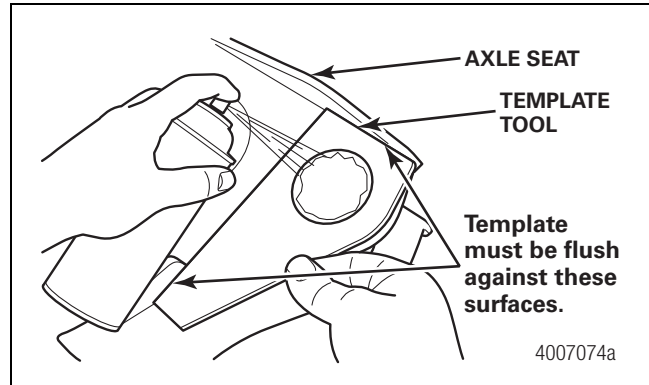
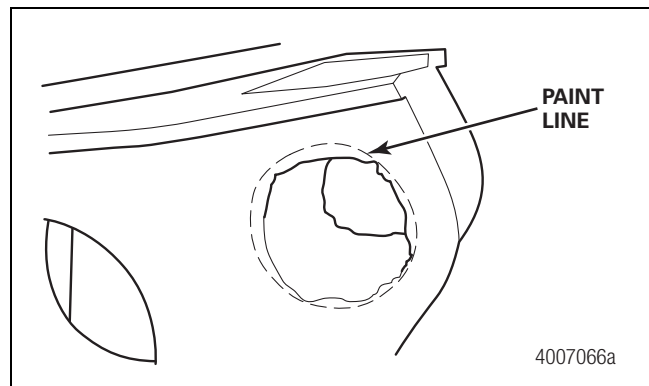

Figure 13
Figure 14
- Select the correct template identified in the axle seat identification procedure. Place the grind template into position on the axle seat. Verify the template is not against the weld. Ensure the template is flush against the axle seat top plate and against the axle connection plate. Spray a small amount of paint over the template. The line from the paint will help ensure that you grind within the template area. Figure 13 and Figure 14.